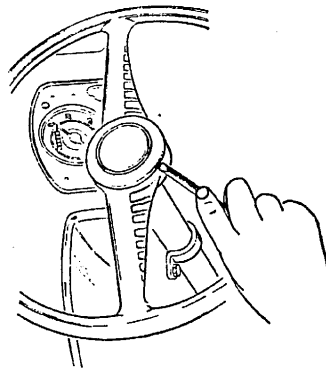

Fig. 36 Lifting the horn push-button off
1. Horn push-button to be carefully lifted off the steering column; to do so, insert screwdriver in recess provided (Fig. 36). Loosen clamp screw for horn cable.